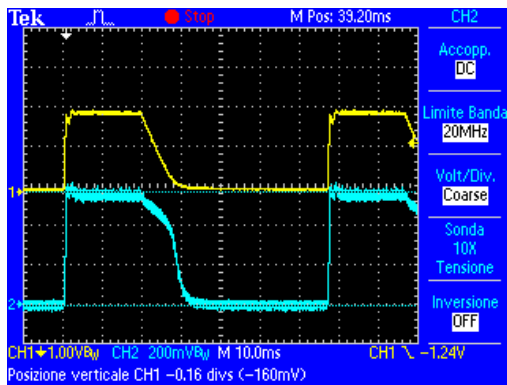

Fig. 4a
- Check that the resulting values are correct respect values in the table below and then check the wave-length by comparing it to the typical wave-lengths shown in figures 4a (60 kV) and 4b (100 kV) below.